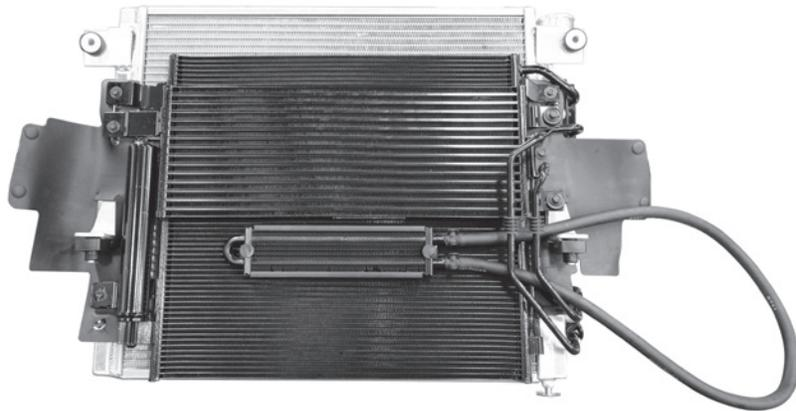

Figure 31
6. Install the supplied power steering cooler. Use the AEV supplied spring clamps NOT the hose clamps provided with the cooler (fig 31).